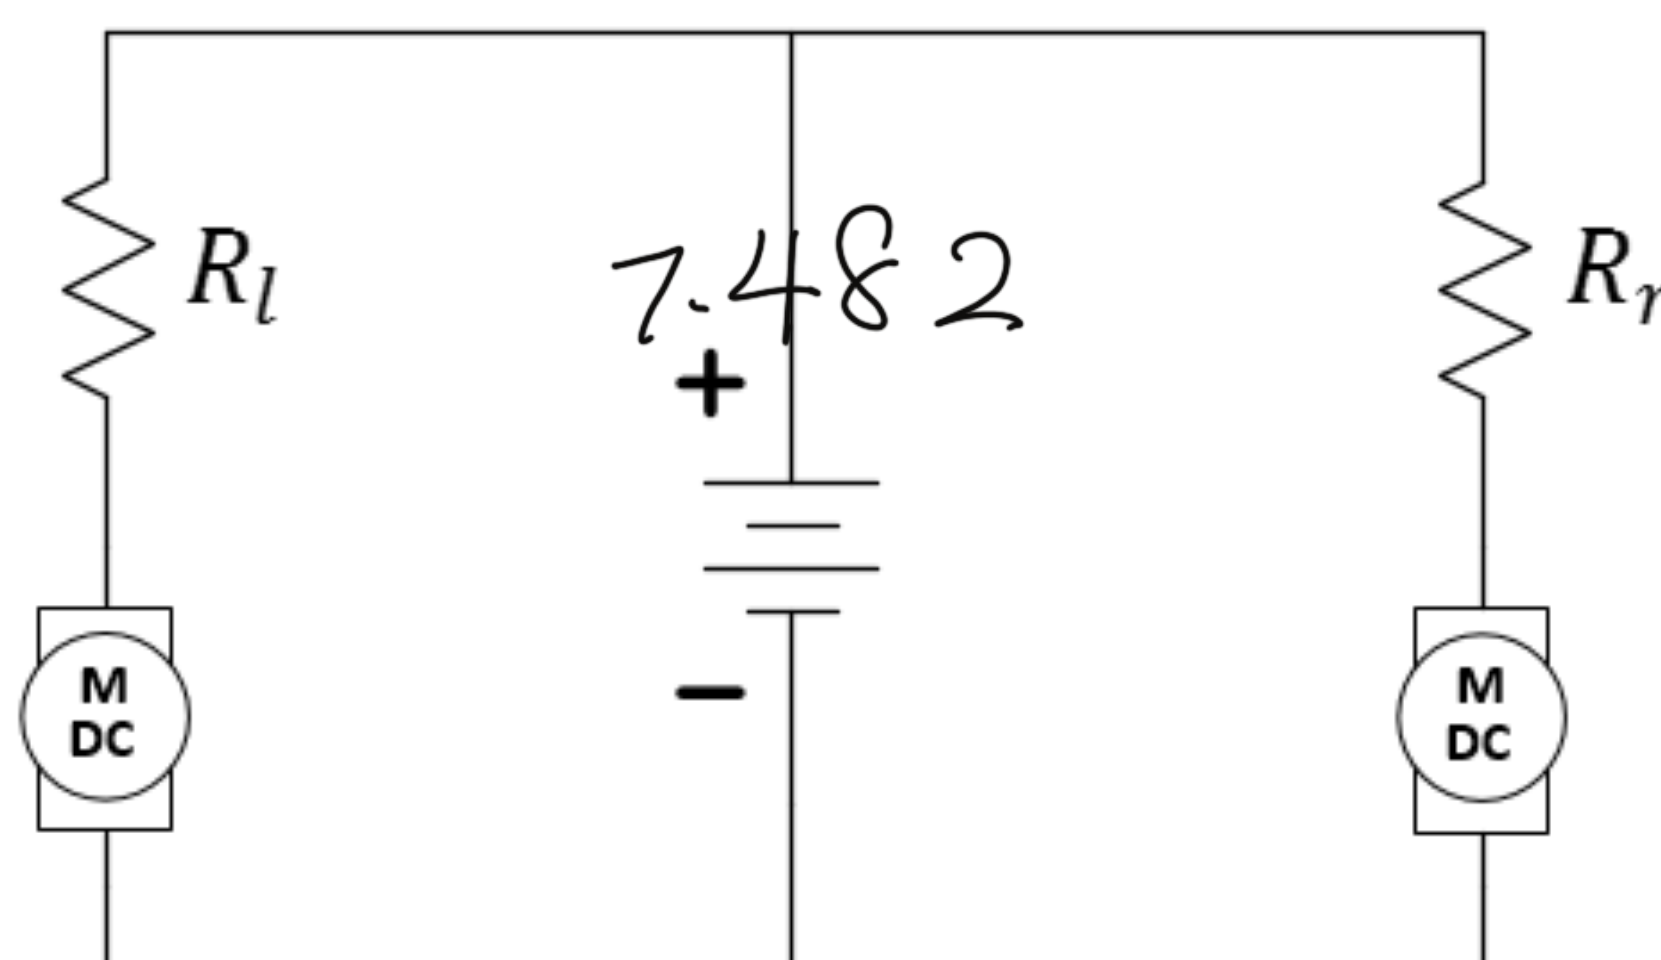

Figure 4: A grand idea! Use two different resistances to make the speeds of the left and right motors match
While it was fun to control your car and make it move in a straight line, it should also be possible to build a type of “cruise control” to make your car go in a straight line as well. To do so, we might consider placing a resistor in series with each motor in order to limit the current flow and slow the motors. To match wheel speeds (compensating for differences in the motors due to loose specifications), a different resistance would be necessary for each wheel. See Figure 4.
5. Assuming you connect the circuit as shown in *Figure 4*, and you use the battery as the power source. If you want most of the battery voltage appear across the motor (so it doesn't stall), R_l and R_r should be no larger than the resistance of the motor. Now measure the open circuit voltage of your rechargeable battery, answer the following question.